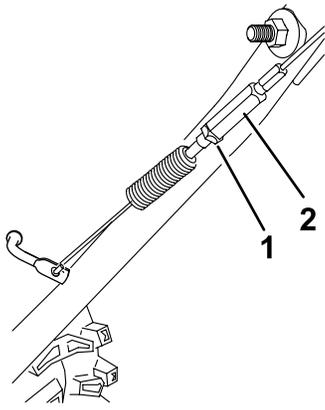

Figure 29
5. Loosen the jam nut (Figure 29).
6. Loosen or tighten the turnbuckle that adjusts the tension on the cable (Figure 29).